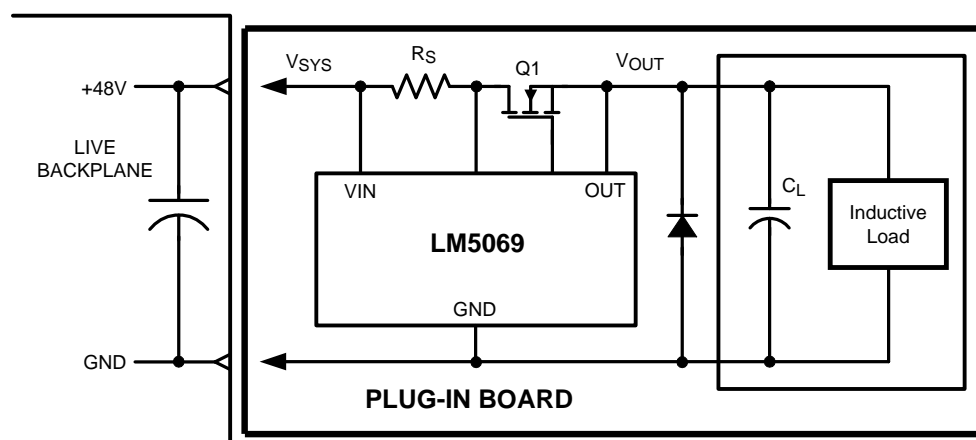

Figure 39. Output Diode Required for Inductive Loads
B) If the load powered via the LM5069 hot swap circuit has inductive characteristics, a diode is required across the LM5069's output. The diode provides a recirculating path for the load's current when the LM5069 shuts off that current. Adding the diode prevents possible damage to the LM5069 as the OUT pin will be taken below ground by the inductive load at shutoff. See Figure 39.